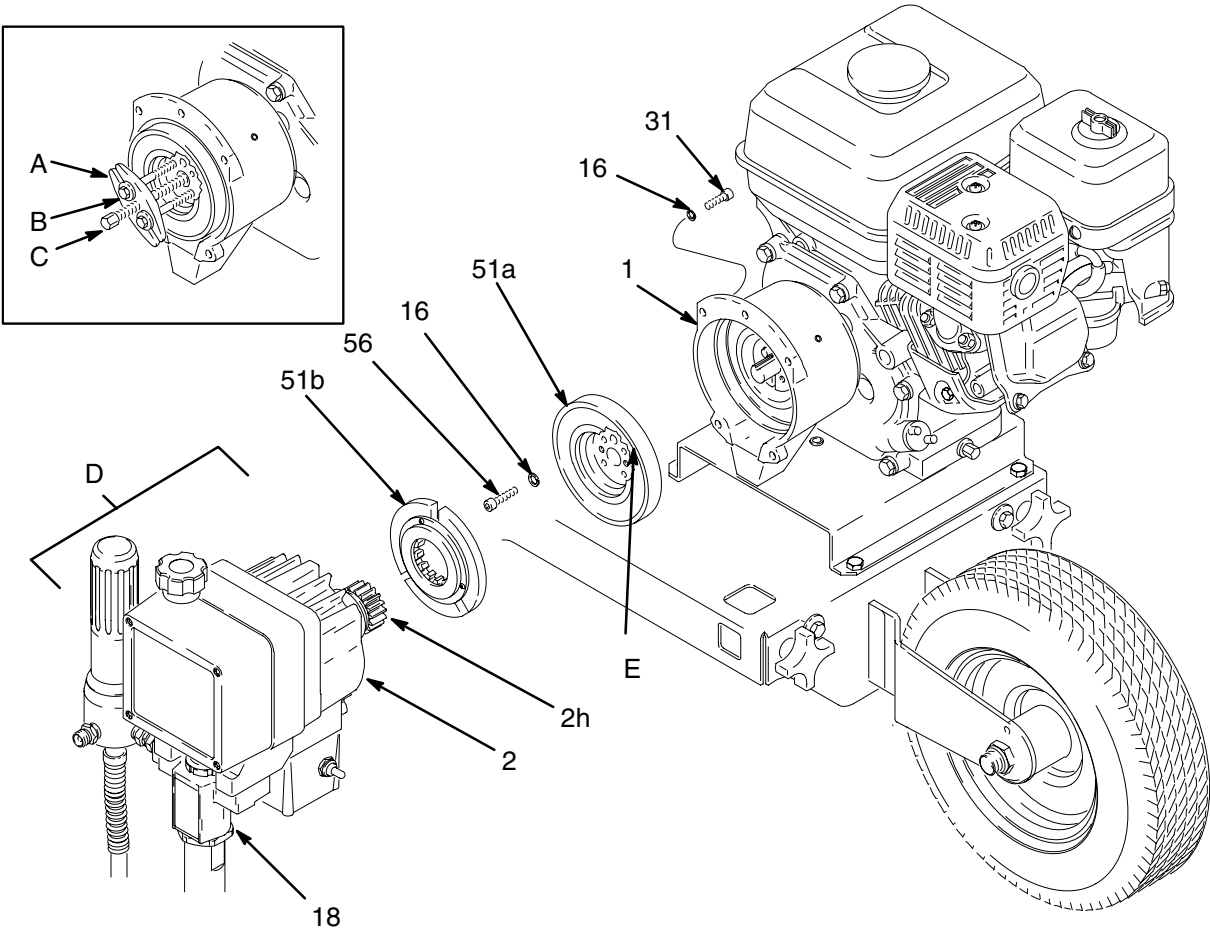

Fig. 17
**NOTE:** The clutch assembly (51) includes the armature (51b) and rotor (51a). The armature and rotor must be replaced together so they wear evenly. A new hub (2h) should be installed as well to ensure long clutch life.
**NOTE:** If the drive assembly (D) is not yet separated from the clutch housing (1), follow Steps 1 to 4. Otherwise, start at Step 5.
**NOTE:** Refer to Fig. 17 for this procedure.
2. Remove the two bottom screws (31) and lockwashers (16) first, then remove the top three screws (31) and lockwashers (16).
- a. Remove the four socket head capscrews (56) and lockwashers (16). Install two of the screws in the threaded holes (E) in the rotor. Alternately tighten the screws until the rotor comes off. See Fig. 17.
- b. You can use a standard steering wheel puller (A). However, two 1/4-28 x 3 or 4 in. long screws (B) are also needed. Replace the short screws of the steering wheel puller with the longer screws (B). Turn the screws (B) into the threaded holes (E) of the rotor (51a). Tighten the capscrew (C) of the tool until the rotor comes off. See the Detail in Fig. 17.